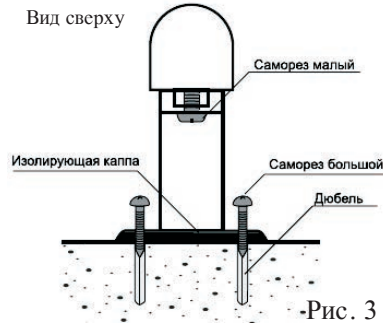

Рис. 3
4. Place the bracket washers between the wall brackets and the wall to avoid water leakage (see figure 3)